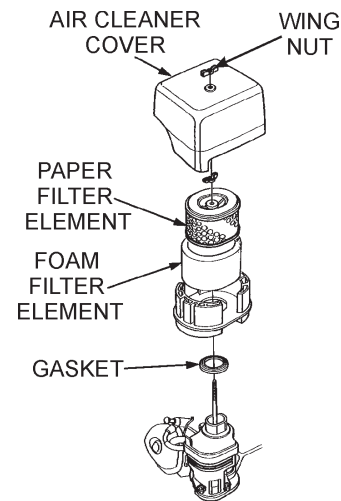

Figure 29. Engine Air Filter
2. Tap the paper filter element (Figure 29) several times on a hard surface to remove dirt, or blow compressed air [not exceeding 30 psi (207 kPa, 2.1 kgf/cm2)] through the filter element from the air cleaner case side. **NEVER** brush off dirt. Brushing will force dirt into the fibers. Replace the paper filter element if it is excessively dirty.